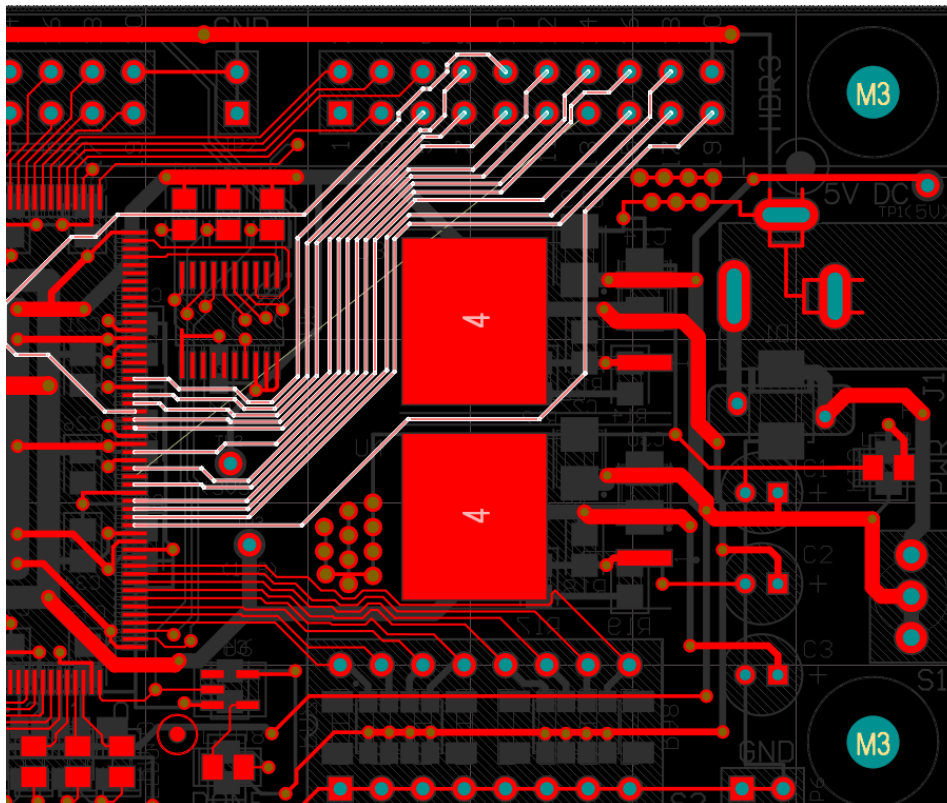

Figure 4. ActiveRoute without Gloss
19. Select the **ActiveRoute** button at the top right in the panel (or use **Shift+A**) to run the ActiveRoute on the selected connections. This will route the 14 nets on the Top Layer, Figure 4.